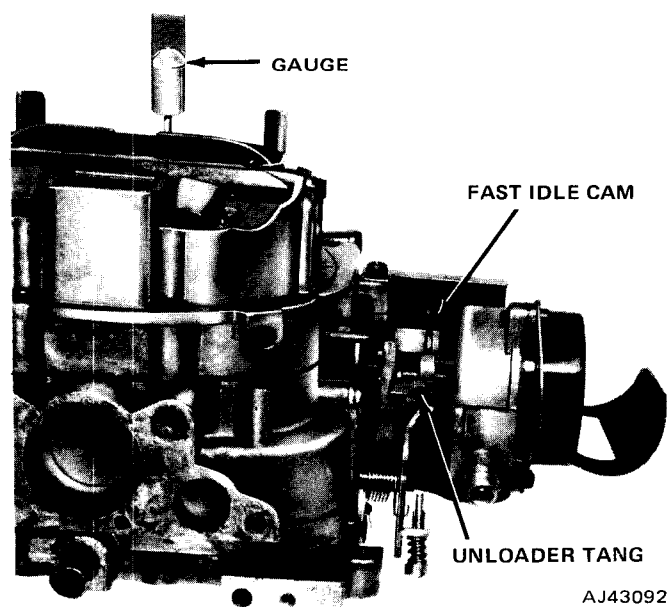
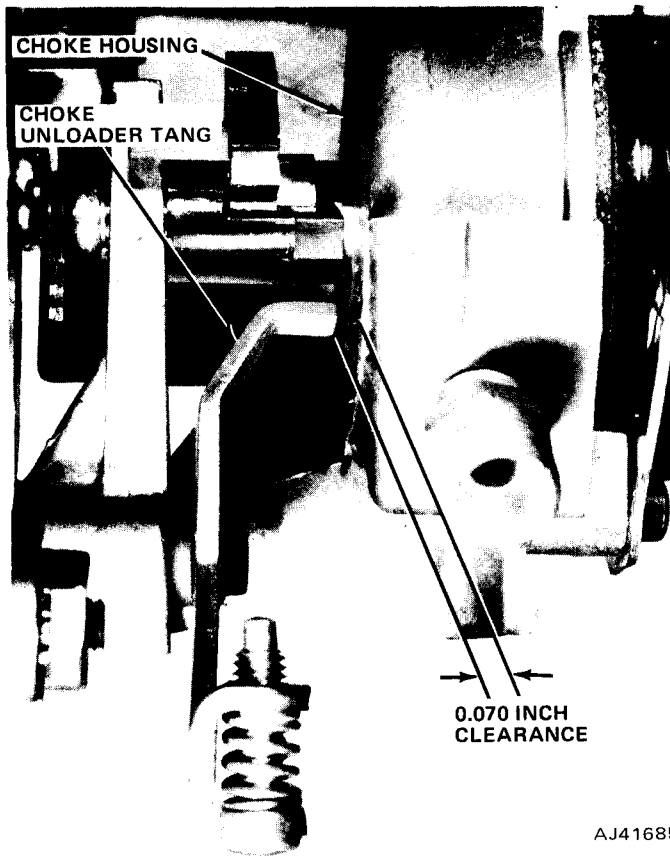

Fig. 4-82 Unloader Adjustment
Fig. 4-83 Unloader-to-Choke Housing Clearance
- (3) Adjust by bending the unloader tang which contacts the fast idle cam as shown in figure 4-82. Bend toward the cam to increase the clearance and away from the cam to decrease the clearance. After making the adjustment, make certain the unloader tang has at least 0.070-inch clearance from the choke housing when the throttle is fully open (fig. 4-83).
- (4) Operate throttle and check unloader tang to make sure it does not bind, contact, or stick on any part of carburetor casting or linkage. After carburetor installation, check for full throttle opening when the throttle is operated from inside the vehicle. If full throttle opening is not obtainable, it may be necessary to remove excess padding under the floor mat or reposition the throttle cable bracket located on the engine.